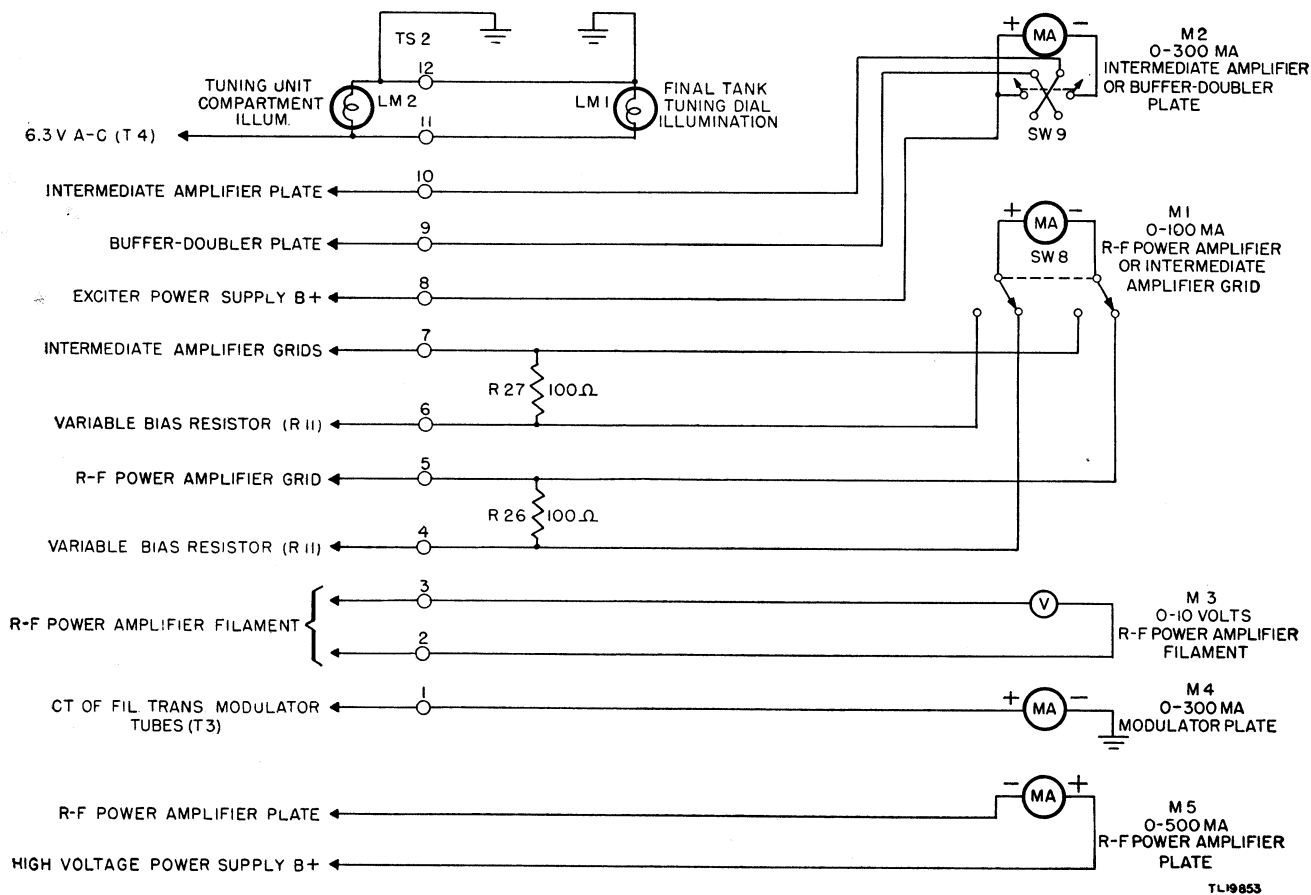

Figure 37. Radio Transmitters BC-610-A and BC-610-B, meter switching, functional diagram.
34. Meter Switching for Radio Transmitters BC-610-A Through -D (figs. 37 and 38)
a. CIRCUIT REPAIR FEATURES. (1) Meter M1 is a 0- to 100-ma, d-c instrument which indicates the grid current of either intermediate-amplifier tubes V10 and V11 or of p-a tube V16 depending on the position of switch SW8. Resistors R26 and R27 are meter shunts which remain at all times in the p-a grid circuit and the intermediate-amplifier grid circuit respectively. In Radio Transmitters BC-610-A and -B, switch SW8 is connected as a double-pole, double-throw switch, and a separate grid return wire to bias resistor R11 is used for the p-a and intermediate-amplifier grid circuits. In Radio Transmitters BC-610-C and -D, switch SW8 is connected as a single-pole, single-throw switch, and a common grid return wire to bias resistor R11 is used for both the p-a and intermediate-amplifier grid circuits.